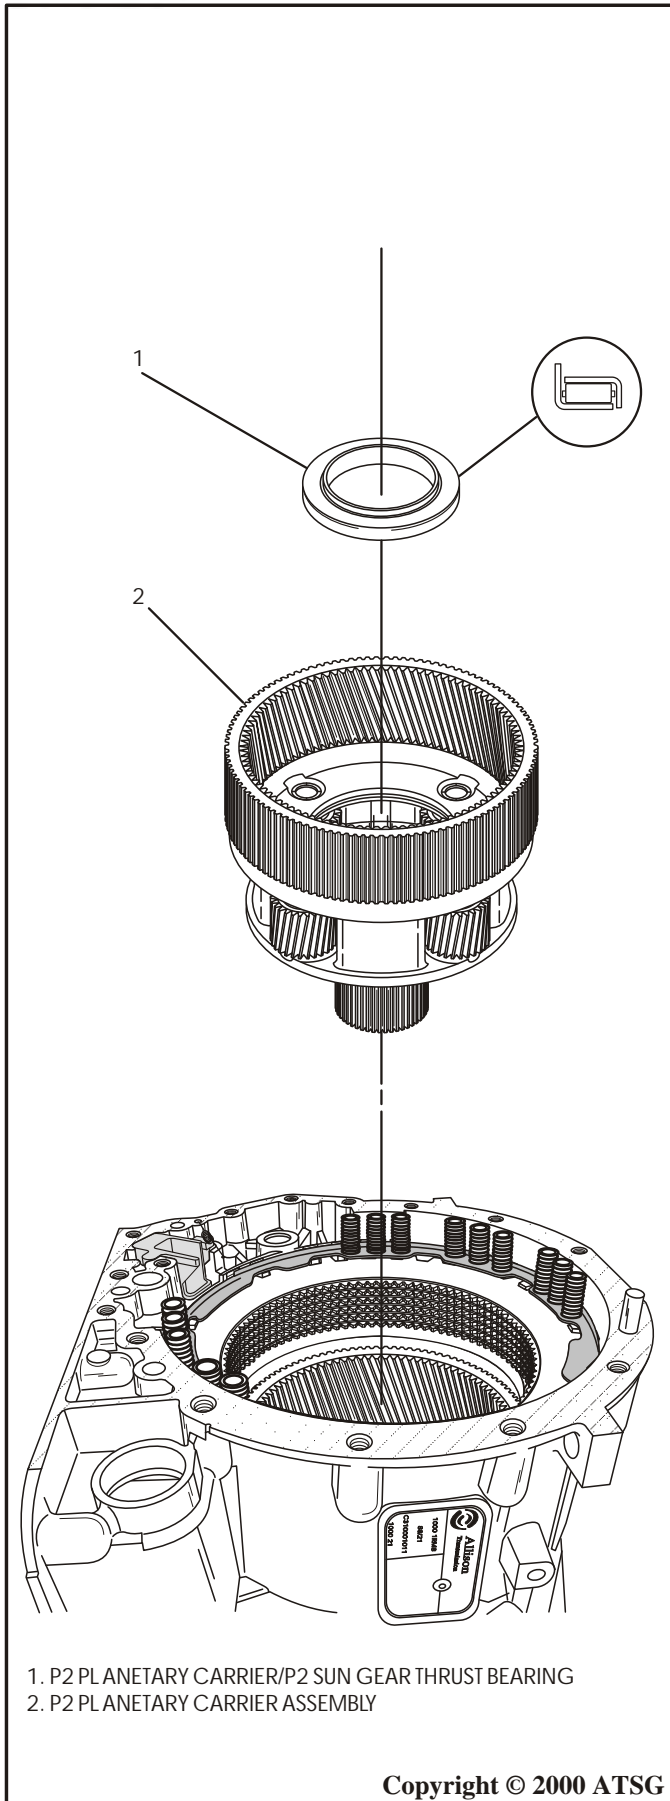

Figure 63
41. Remove the P2 planetary carrier assembly by lifting up with a slight twisting motion. Refer to Figure 63.
Note: *The planetary carrier to P2 sun gear thrust bearing will be removed with the planetary carrier (See Figure 63).*